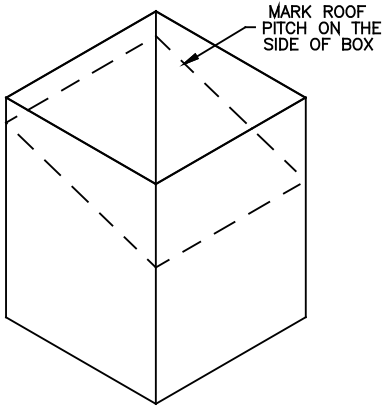

Figure 28
1. Mark a line on the side of the Cathedral Ceiling Support Box to correspond to the line of the roof pitch, as shown in (*Figure 28*). Allow for the Support Box to protrude below the low side of the finished ceiling a minimum of 2 inches.